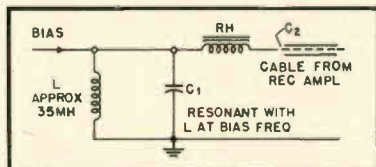
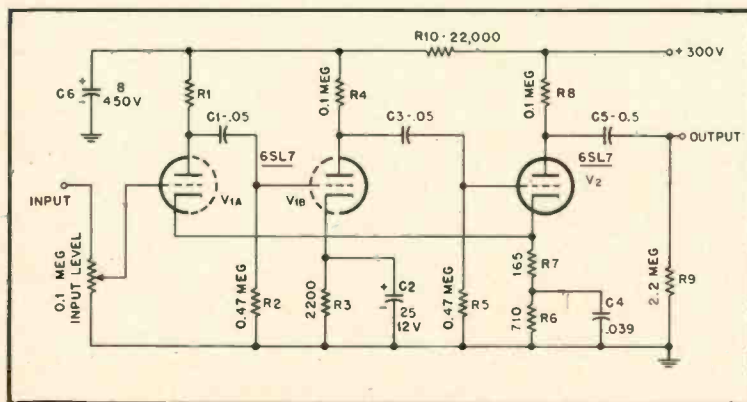

Fig. 6. The author's series-bias system employs a resonant circuit to keep bias out of amplifier.
Fig. 7. The complete tape-recording amplifier. Output goes through a shielded cable to the head and bias-injection arrangement of Fig. 6.
The recording bias is therefore fed into the recording head in series with the audio frequencies, as shown in Fig. 6. The parallel tuned circuit  $L-C_1$
The complete diagram is shown in Fig. 7. The mentioned feedback path consists of  $R_6$ ,  $R_7$ , and  $C_1$ . The current amplification at low frequencies is determined by  $R_6 + R_7$ , the low-frequency turnover by the time constant  $R_6 C_1$  and the high-frequency turnover by the time constant  $R_7 C_1$ . The design procedure for this network and  $C_{in}$  in Fig. 6 will now be described.
(2) The region in which this frequency response drops by about 6 db per octave may now be extended, adjusting  $C_1$  (Fig. 6) to its optimum value.
(3) The frequency  $f_1$  at which the output is 3 db below flat response, and the frequency  $f_2$  at which the response drops by at least 6 db1 below the 6-db-per-octave line, are found by inspection.
(4) The value of the components may now be found from  $f_1$ ,  $f_2$  and  $R$  according to the formulas
The recording head employed by the author has the following characteristic: impedance, 0.44  $\Omega$  measured at 50 cps, resonating at 14,000 cps with 200  $\mu\text{f}$ ; maximum impedance (self-resonating) at 60,000 cps. However, any high-impedance head may be employed with the corresponding changes of the critical components  $R_6$ ,  $R_7$ ,  $C_1$ , and  $C_2$  (Fig. 6). In the present design their value was chosen for a tape speed of 7.5 ips. A conventional reproducing amplifier was employed and yielded at that speed an over-all response of  $\pm 3$  db between 40 and 10,000 cps. The highest frequency obtainable without attenuation will mainly depend on the kind of recording head, reproducing head, the tape speed, and the tape itself. The recording amplifier itself is capable of amplifying the highest audible frequencies with considerable preemphasis, and with remarkable lack of distortion.